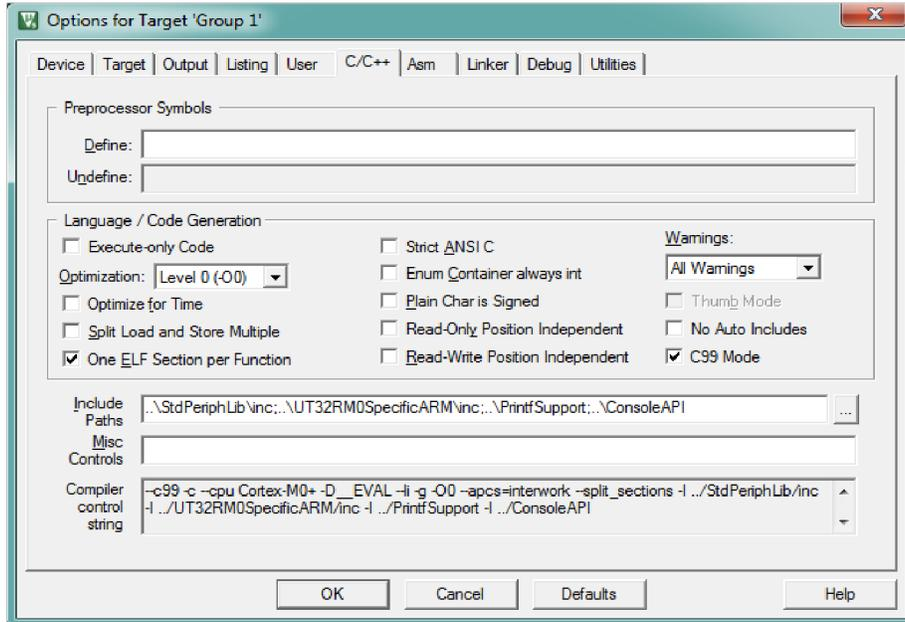
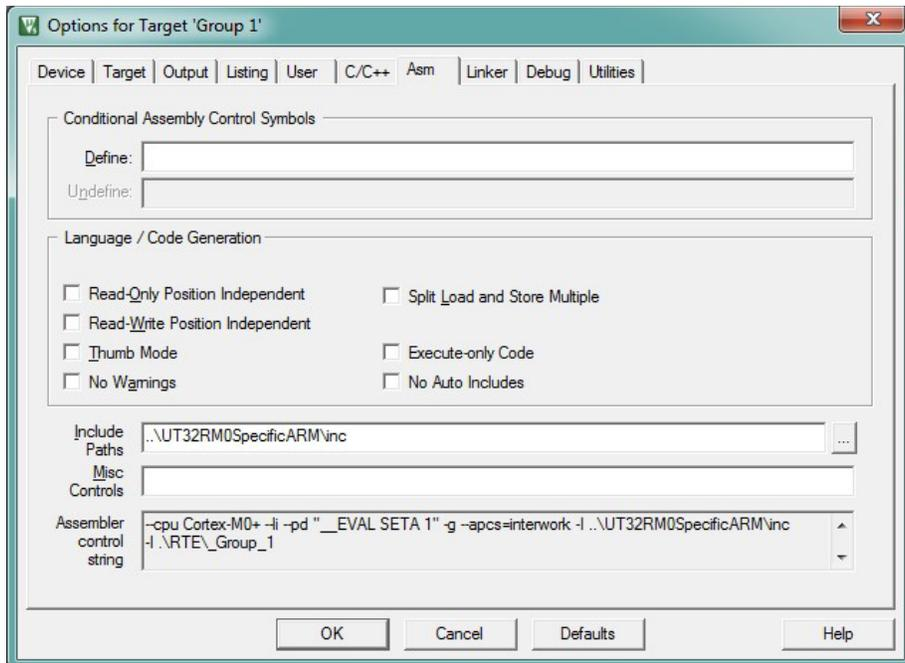

Figure 11: C/C++ Include Paths
Figure 12: ASM Include Paths
Change setting according to the particular project. For **C/C++** and **Asm** tabs, click  and setup the compiler include paths; see **Figure 11** and **Figure 12**. Leave the other tabs with defaults.
11. Start the debugger  and run  the application. Display the output using a Terminal, see **Figure 12**.